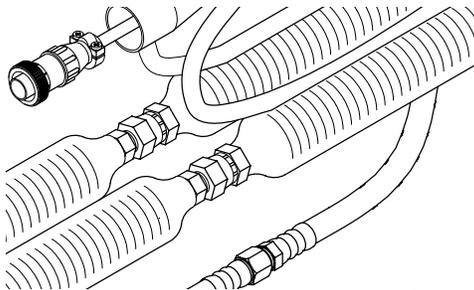

FIG. 13: Hose Connection (steps b and c)
- b. Connect heated hoses to isolation hoses. To ensure a leak-proof chemical connection, do not cross-thread or over-tighten fittings. See FIG. 13.
- c. Connect air hoses and tighten fittings. See FIG. 13.